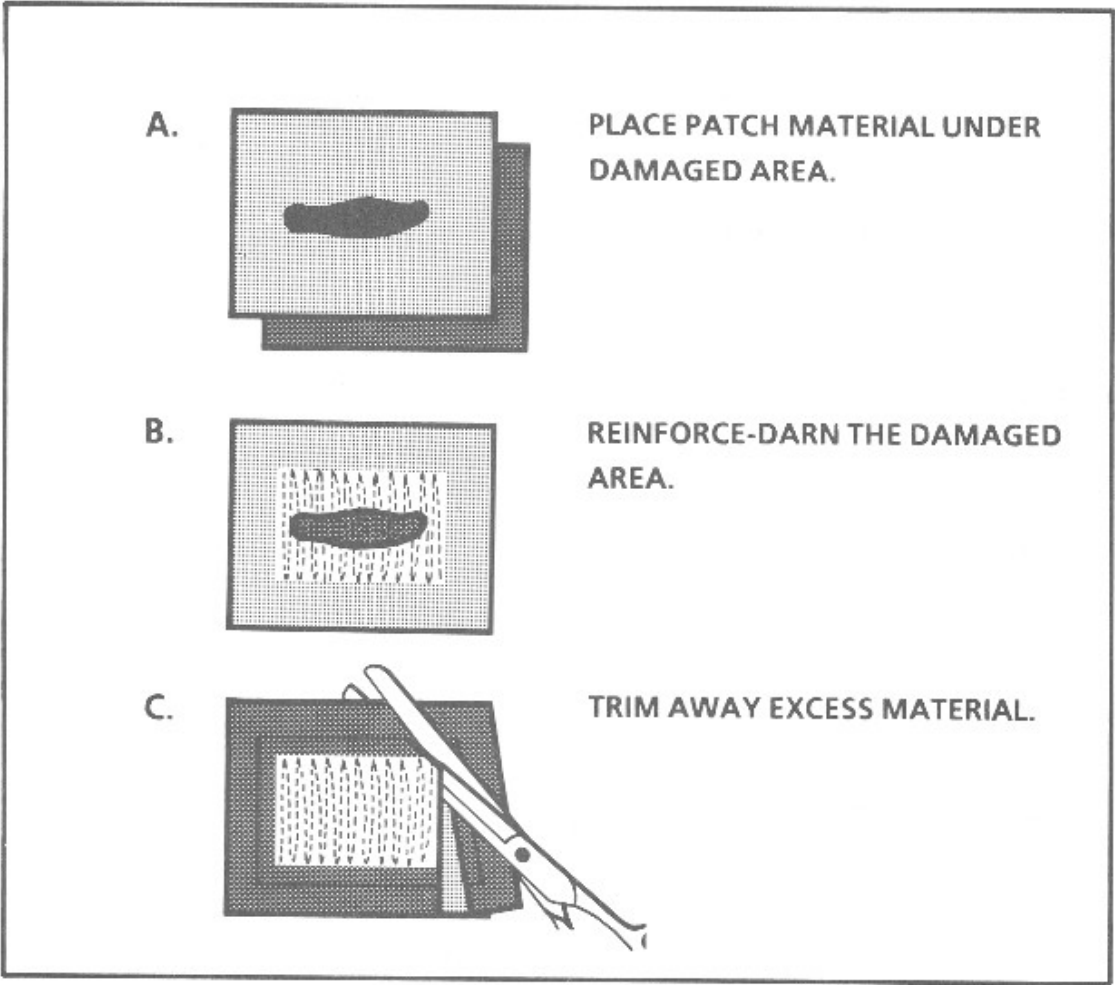

Figure 3-77
- c. Cut off the excess material. (See Figure 3-77)